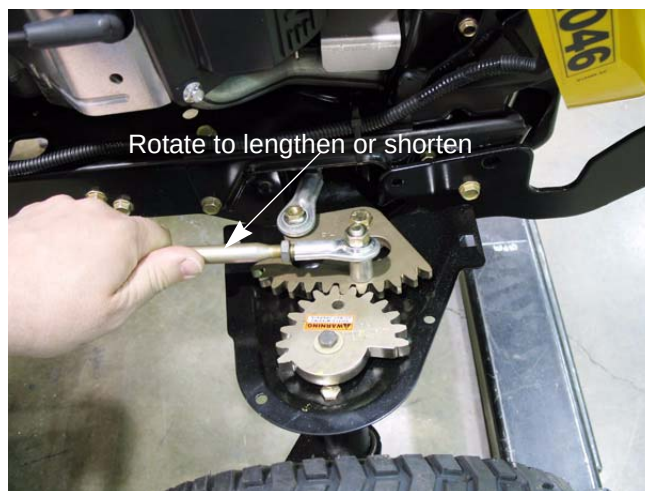

Figure 6.10
- 3b. Adjust the drag link until the holes line up. See Figure 6.10.